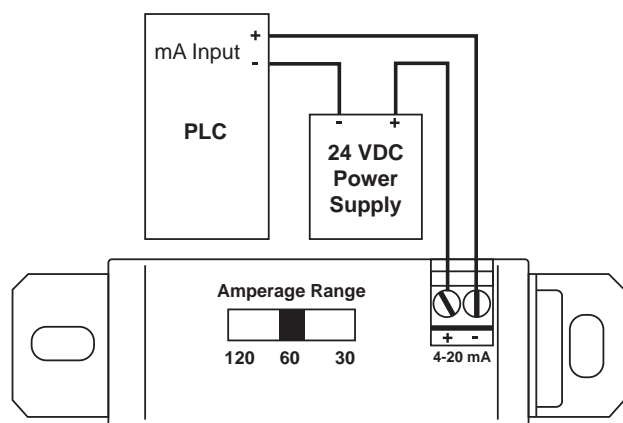

Figure 5: PDA6420 being powered by external 24 VDC power supply such as Precision Digital model PDA1024-01.
3. Wire the PDA6420 4-20 mA output terminals to desired device per Figure 5 or 6.